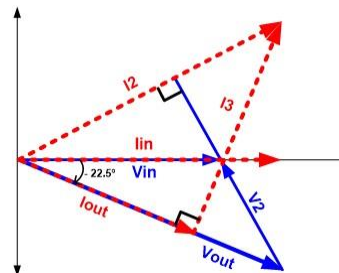

Figure 7: I2 & I3 Phasor Diagrams
Using I3 is perpendicular to Vout and (4) to determine I2 direction, **Figure 7** shows the I2 and I3 phasor diagram.